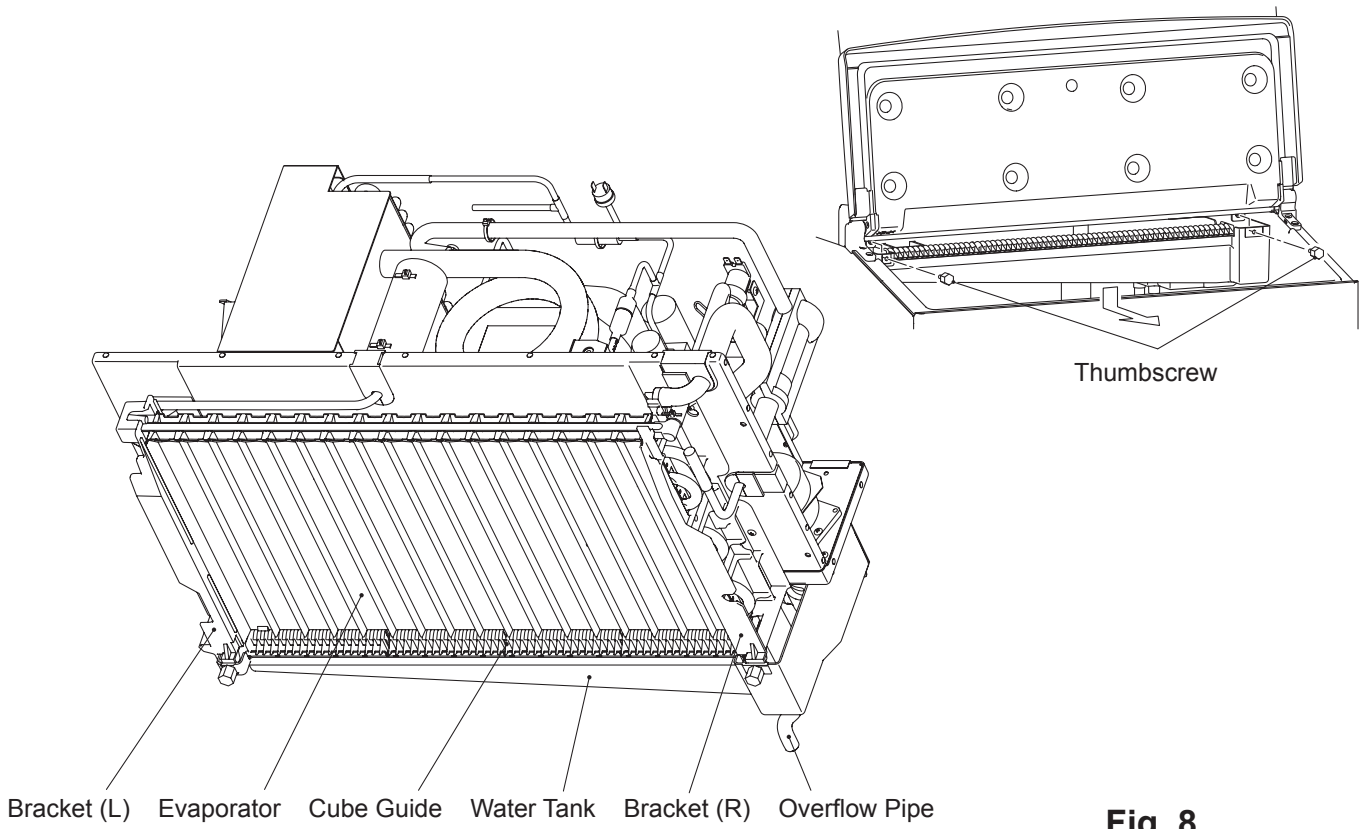

Fig. 8
- 14) Disconnect the overflow pipe. Next, remove the water tank by removing the two thumbscrews and pulling the tank towards you slightly and pushing it down. Be careful to avoid breakage when handling the parts. See Fig. 8.